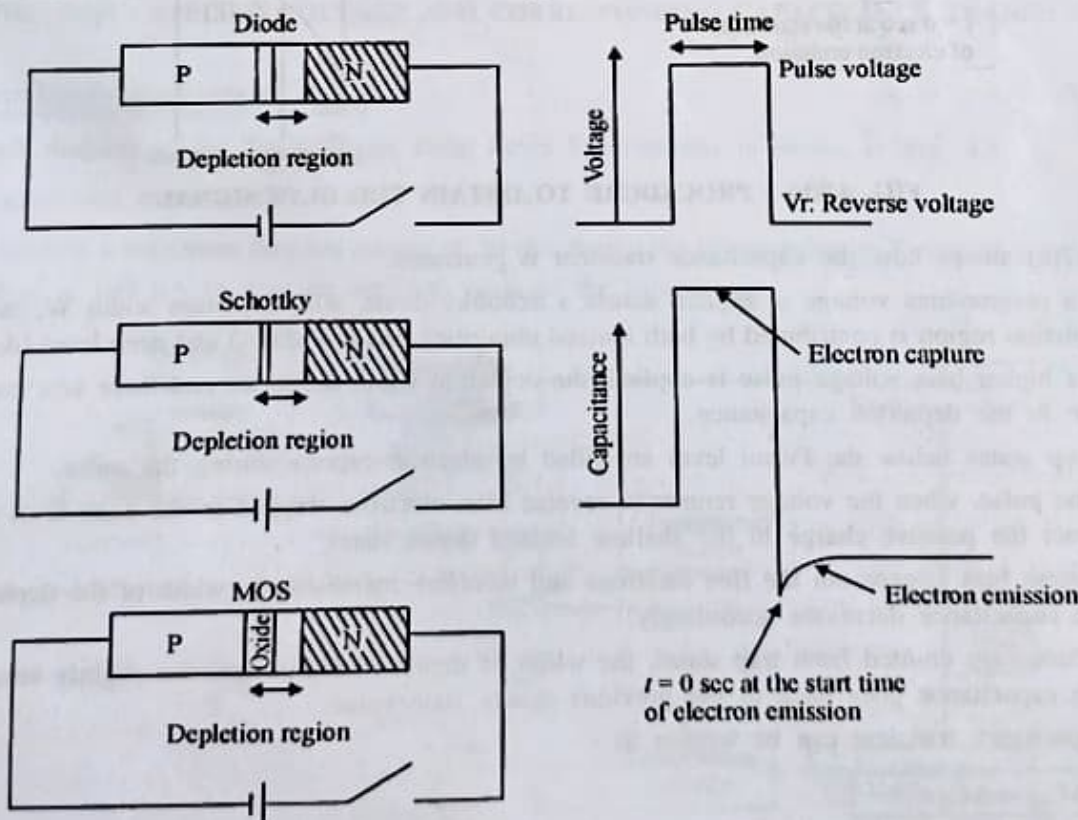

FIG. 4.7(a) : DLTS MEASUREMENT APPLIED TO SIMPLE DEVICE STRUCTURE
- The DLTS measurement can be applied to simple device structures like the PN junction device, the Schottky device and the MOS device as shown in the Fig. 4.7(a).